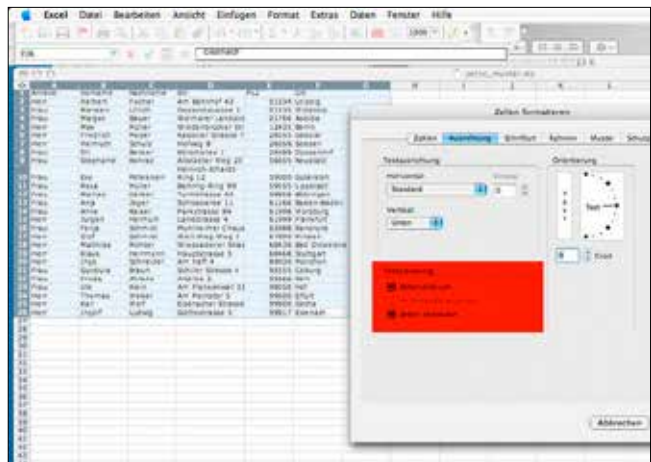

Fig 1
- No line breaks in cells (see Fig. 1)